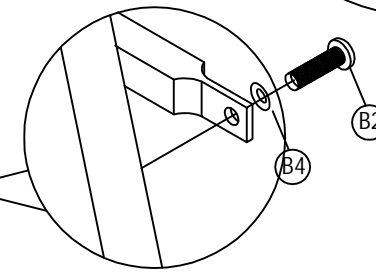

Fig.6-1
Step 6: Assemble the ladder A11 to the front upper rail A5 using bolts B2&B3 & washers B4, do not attach and tighten bolt B3 & washer B4 until step 7. Connect tube A12 to the bottom of ladder & leg A2 using bolts B2 with washers B4. Refer Fig. 6-1&6-2.